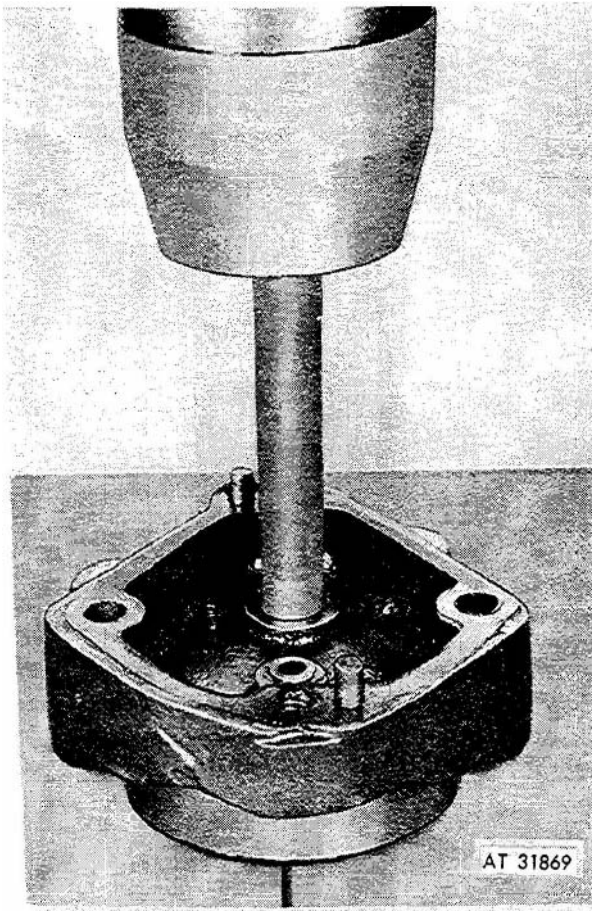

*Figure 3-71. Tightening intermediate shaft retainer screws.*
(11) Install retaining ring (48, fig 3-47) on intermediate shaft (46). Connect retainer (36) to shaft and secure with screws (37). Tighten screws to proper torque and lockwire (fig 3-71).